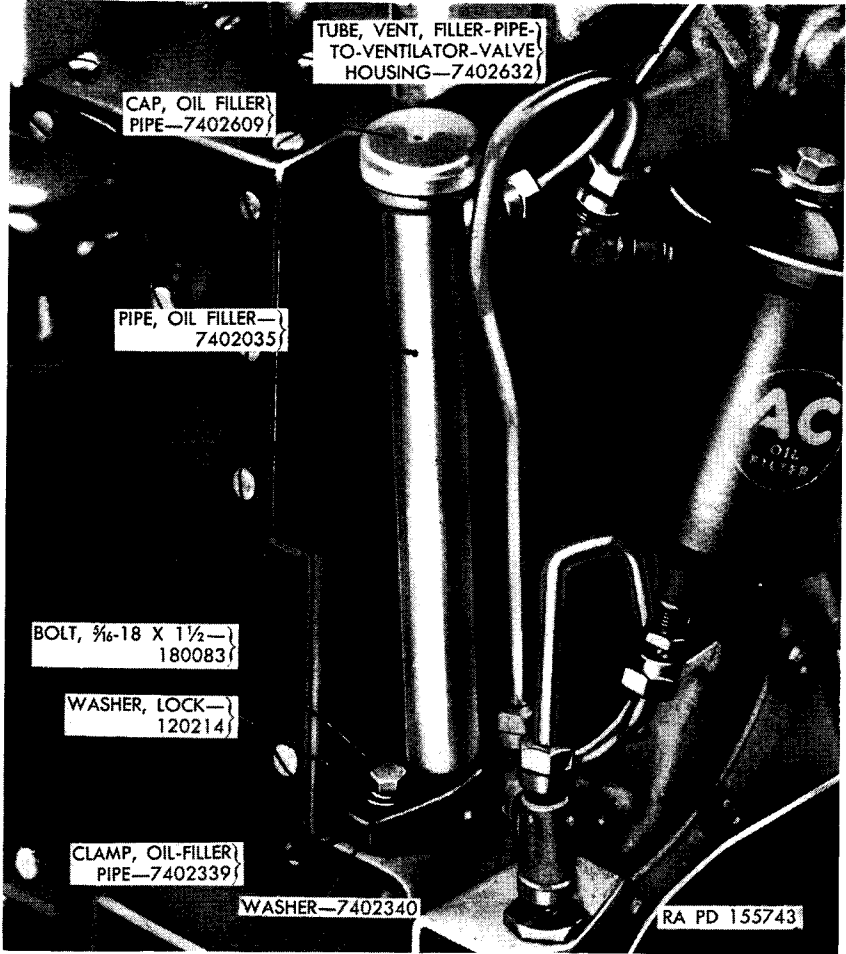

Figure 27. Oil-filler pipe and cap.
a. Remove one $\frac{5}{16}$ -18 x $1\frac{1}{2}$ bolt and lock washer securing oil-filler-pipe clamp to crankcase (fig. 27). Remove clamp.
- b.* Remove oil-filler pipe, seal ring, and filler cap from crankcase (figs. 27 and 37).